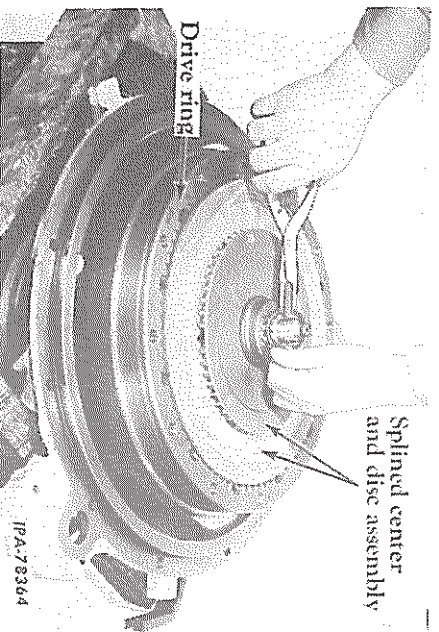

FIG. 5 — Removing the Splined Center and Disc Assembly Snap Ring
1. Support the clutch housing so the clutch drive ring (Fig. 5) is up. The housing must be blocked up sufficiently to clear the drive yoke (27, Fig. 3).
2. Remove the sealing ring from around the housing mounting flange. Remove the snap ring securing the splined center and disc assembly to the shaft (Fig. 5).